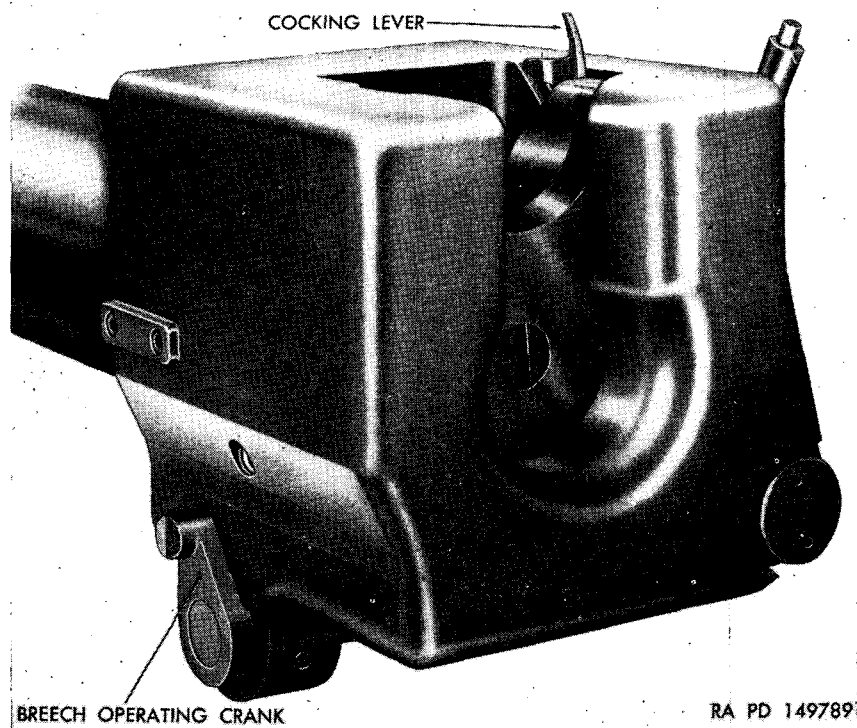
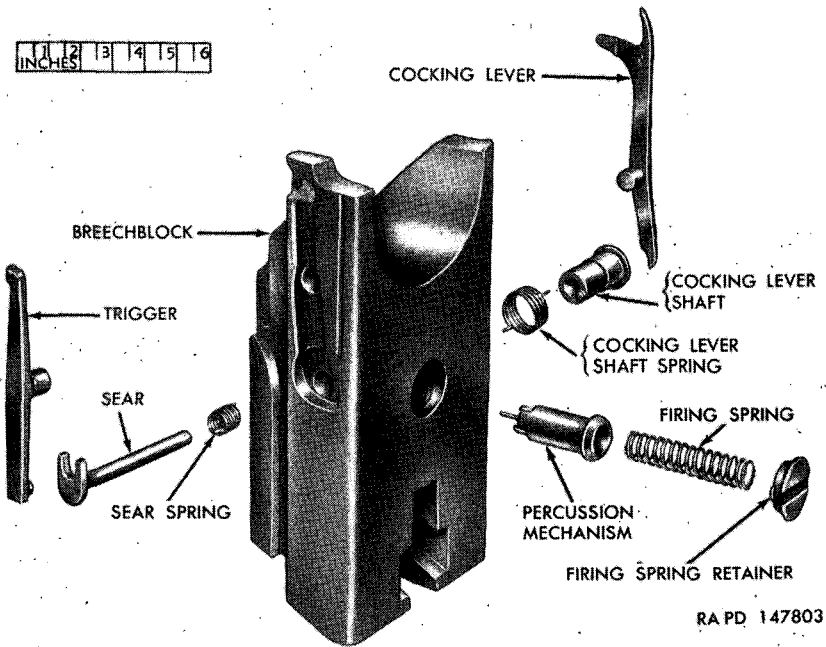
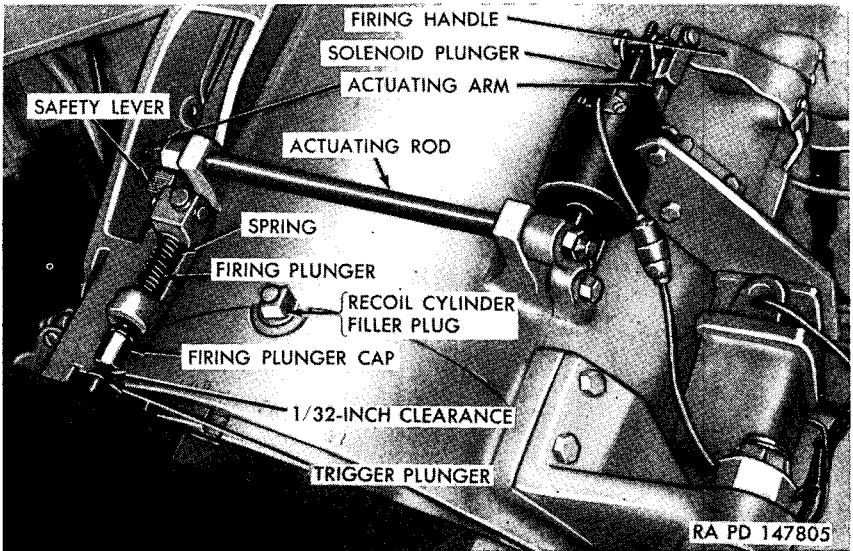

Figure 341. Breech closed—left rear view.
Figure 346. Breechblock and attaching parts—exploded view.
Figure 349. Firing linkage.
c. **BREECHBLOCK.** The breechblock and related parts (fig. 346) slide vertically in the breech ring. The top of the breechblock is U shaped to guide the cartridge into the chamber, and the upper front edge is beveled to drive the round home as the breech is closed. The two vertical holes in the bottom of the breechblock are for lightening the breechblock.
d. **FIRING PARTS.** The firing parts include the percussion mechanism, firing spring, firing spring retainer, sear, and trigger (fig. 346). Firing is accomplished by actuating the trigger plunger (through the firing linkage (sec. XXXI)), which protrudes from the upper, left, front face of the breech ring (fig. 349).
- (1) With the chamber empty and the breech closed, operate the firing mechanism (par. 349) on the mount to actuate the trigger plunger and trigger and trip the sear. Press the firing spring retainer (fig. 346) inward against the firing spring and rotate the retainer 90° until the slot in the retainer is horizontal. Remove the retainer and firing spring. Hold one hand over the exposed hole and pull rearward on the cocking lever (fig. 341) to move the percussion mechanism to the rear and beyond the sear. Grasp the rear end of the firing pin guide and withdraw the percussion mechanism from the central breechblock bore. To disassemble the percussion mechanism, see paragraph 343b.
- (2) Removal of the sear, trigger, and cocking mechanism requires removal of the breechblock (a above). With the breechblock removed and standing upright, pull the cocking lever (fig. 346) out of its seat in the right side of the breechblock. Remove the cocking lever shaft and the cocking lever shaft spring from the bore in the right side of the breechblock. Remove the trigger from its seat in the left side of the breechblock. Remove the sear and sear spring from the bore on the left side of the breechblock.
a. GENERAL. The combination gun mount M78 (figs. 350 and 351) consists principally of the gun shield and adapter assembly, the hydro-spring type recoil mechanism concentric with the 90-mm gun, the breech guard, and the cradle assembly which mounts, coaxially with the 90-mm gun, either a cal. .50 HB Browning machine gun M2 or a cal. .30 M1919A4 Browning machine gun. On the combination mount are mounted the impulse relay and firing solenoid for firing the 90-mm gun electrically and the mechanism for hand-firing it, the firing linkage (fig. 349) to the gun trigger plunger in the breech ring, and the cam which operates the breech operating mechanism. The solenoid for electrical firing of a cal. .30 machine gun mounted in the coaxial machine gun mount is on the combination gun mount. The firing solenoid for the cal. .50 machine gun mounts on the machine gun and is actuated by the same firing cable and control. Provision is made for elevating, depressing, and traversing the coaxial machine gun mount to aline it exactly with the 90-mm gun.
a. The firing linkage of the 90-mm gun T119E1 (fig. 349) consists of a firing plunger, spring, firing plunger cap, actuating rod and arms, solenoid plunger, and firing handle, and actuating mechanism. An electrical relay and firing solenoid are provided to enable the gun to be fired electrically as well as manually (par. 79). The firing mechanism is rendered inoperative by a safety lever on the firing plunger (figs. 41 and 349).
d. When the firing controls are released, the firing plunger is returned to its original position by the action of the firing plunger return spring (fig. 349).
a. **FIRING PLUNGER GROUP.** To remove the firing plunger group (fig. 349), remove two cap screws and washers which secure the supporting bracket to the gun cradle and tilt the forward end upward to free the plunger from the left actuating arm.